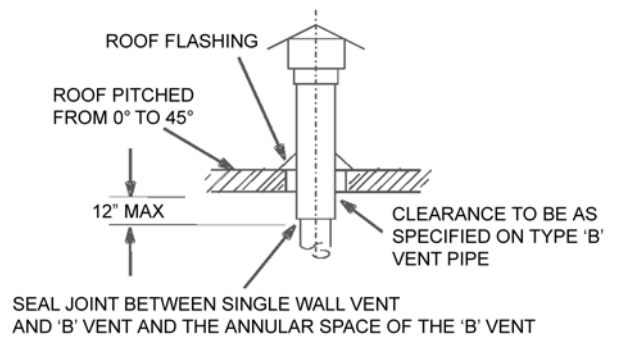
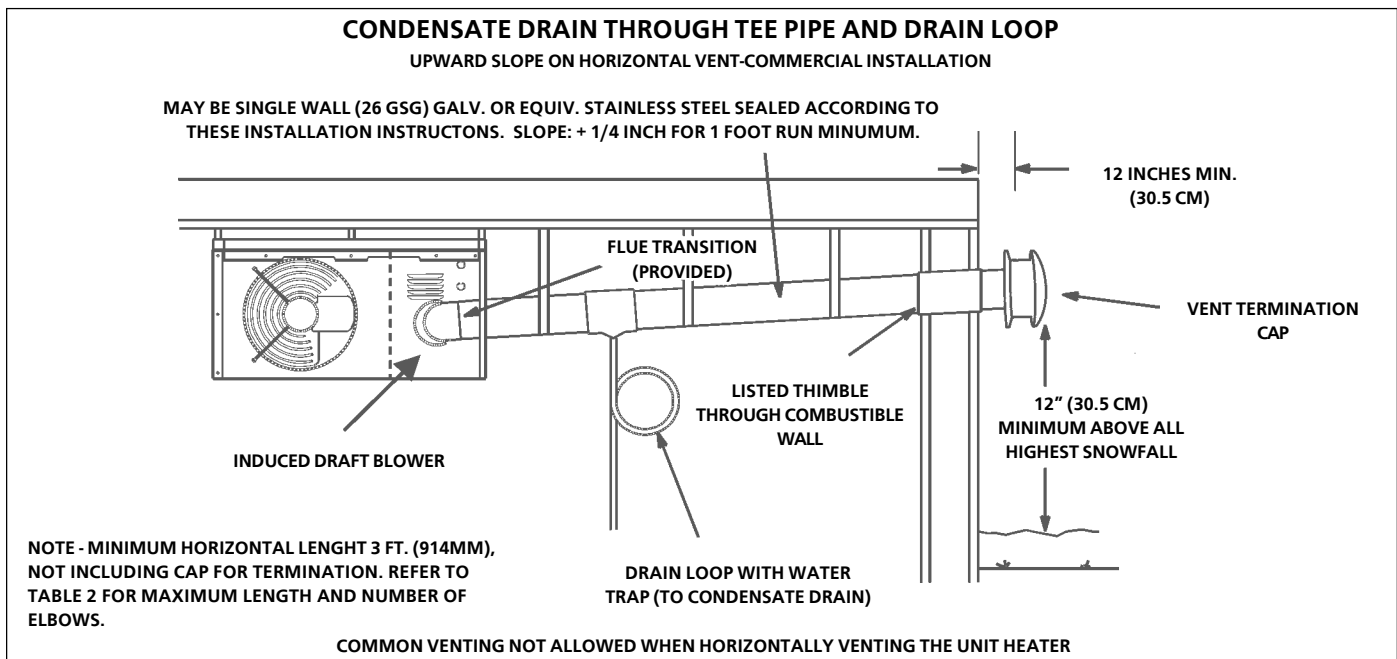

FIGURE 2
FIGURE 3
- MHU/HSU unit heaters are to be used with NFPA- or ANSI-approved chimneys, U.L. listed type B-1 gas vents, single wall metal pipe, or listed chimney lining system for gas venting where applicable, as well as the modifications and limitations listed in **figure 2**. Seal single wall vent material according to the section **A - General Recommendations and Requirements**.
- When termination is routed through an exterior combustible wall the vent must be supported using a listed clearance thimble. Where local authorities permit, a single section of type B-1 vent pipe may be used as an alternative to the thimble. When using a type B-1 vent termination use the clearances specified by the vent manufacturer. Seal the connection between the single wall and double wall pipes and the annular space of the double wall pipe as shown in figure 2. Inside edge of vent termination tee must be at least 12 inches from outside wall as shown in figure 3.
Venting A - General Recommendations and Requirements and **C - Horizontal Venting General** and **D - Horizontal Venting - Commercial**. Refer to **figure 3**.